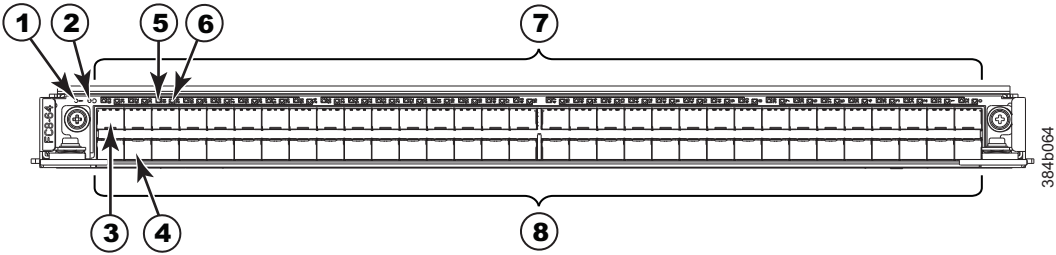

Figure 57. FC8-64 port blade
- Figure 57 on page 148 shows an FC8-64 port blade